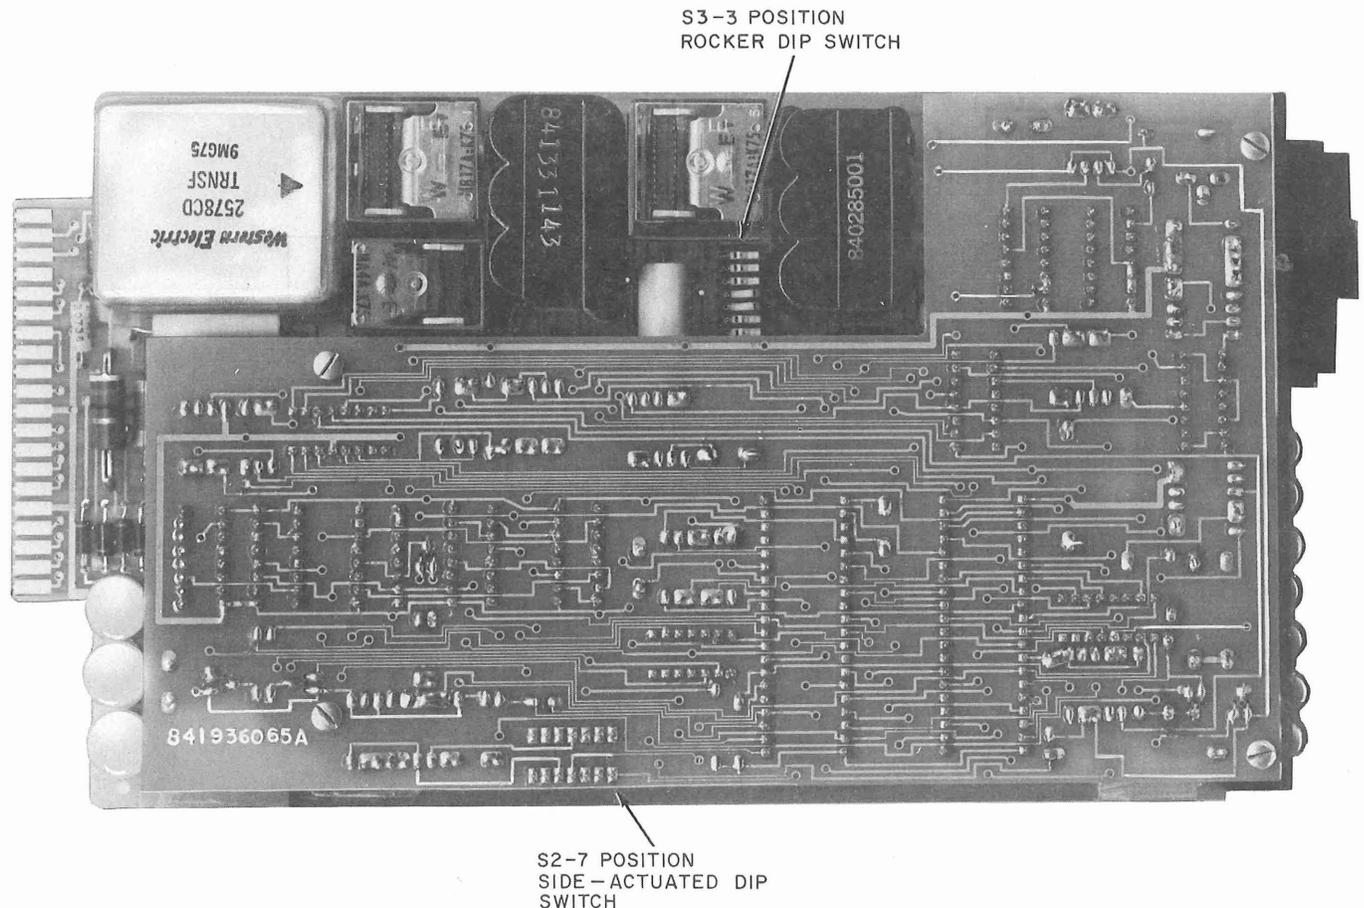

Fig. 2—Data Set 103J-L1
- **DS 103J-L1:** Printed circuit pack assembly shown in Fig. 2.